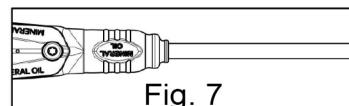

Fig. 7
⑦ Install the rubber boot to finish the assembling process (Fig. 7).
⑧ Checking methods after assembling:
(1) Ensure that the tightening torque of the flare nut is 70-90kgf-cm.
(2) Operate the brake lever 4-5 times until it feels back to normal.
(3) Depress the brake lever using about 6kg force and hold it for 30 seconds to check whether there is oil leak at the connection port and whether the reach distance is less than 1.5 fingers.
(4) If there occurs oil leakage at the connection port, please refer to the "I Series Assembly Instruction" manual and re-conduct the assembly process
(5) If the distance between brake lever and handle bar is less than 1.5 fingers, please add more oil to get it back to normal stiffness following the instructions in the manual.